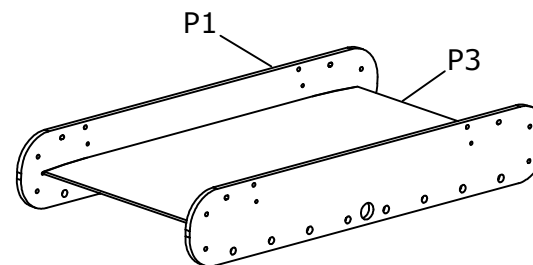

FIGURE 1
12. Attach hockey support brace **P16** to the back of the hockey table **P15** with **H12**. See **figure 1**.
1. Slide playfield **P3** into the groove on the side panels **P1** with graphics facing down. See **figure 1**.